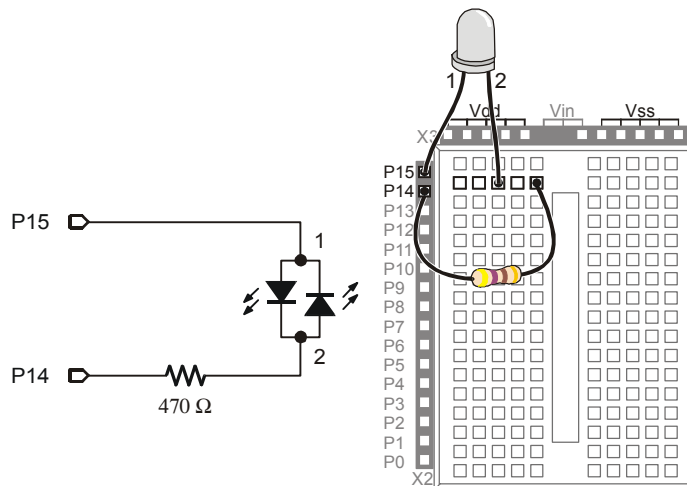

Figure 2-19
Controlling a bi-color LED with the BASIC Stamp requires two I/O pins. After you have manually verified that the bi-color LED works using the manual test, you can connect the circuit to the BASIC Stamp as shown in Figure 2-19.
- ✓ Connect the bi-color LED circuit to the BASIC Stamp as shown in Figure 2-19.